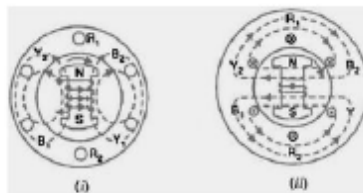

Fig. 1 (c)
- Flux due to rotor current is distributed in air-gap as shown in Fig: 1 (d).